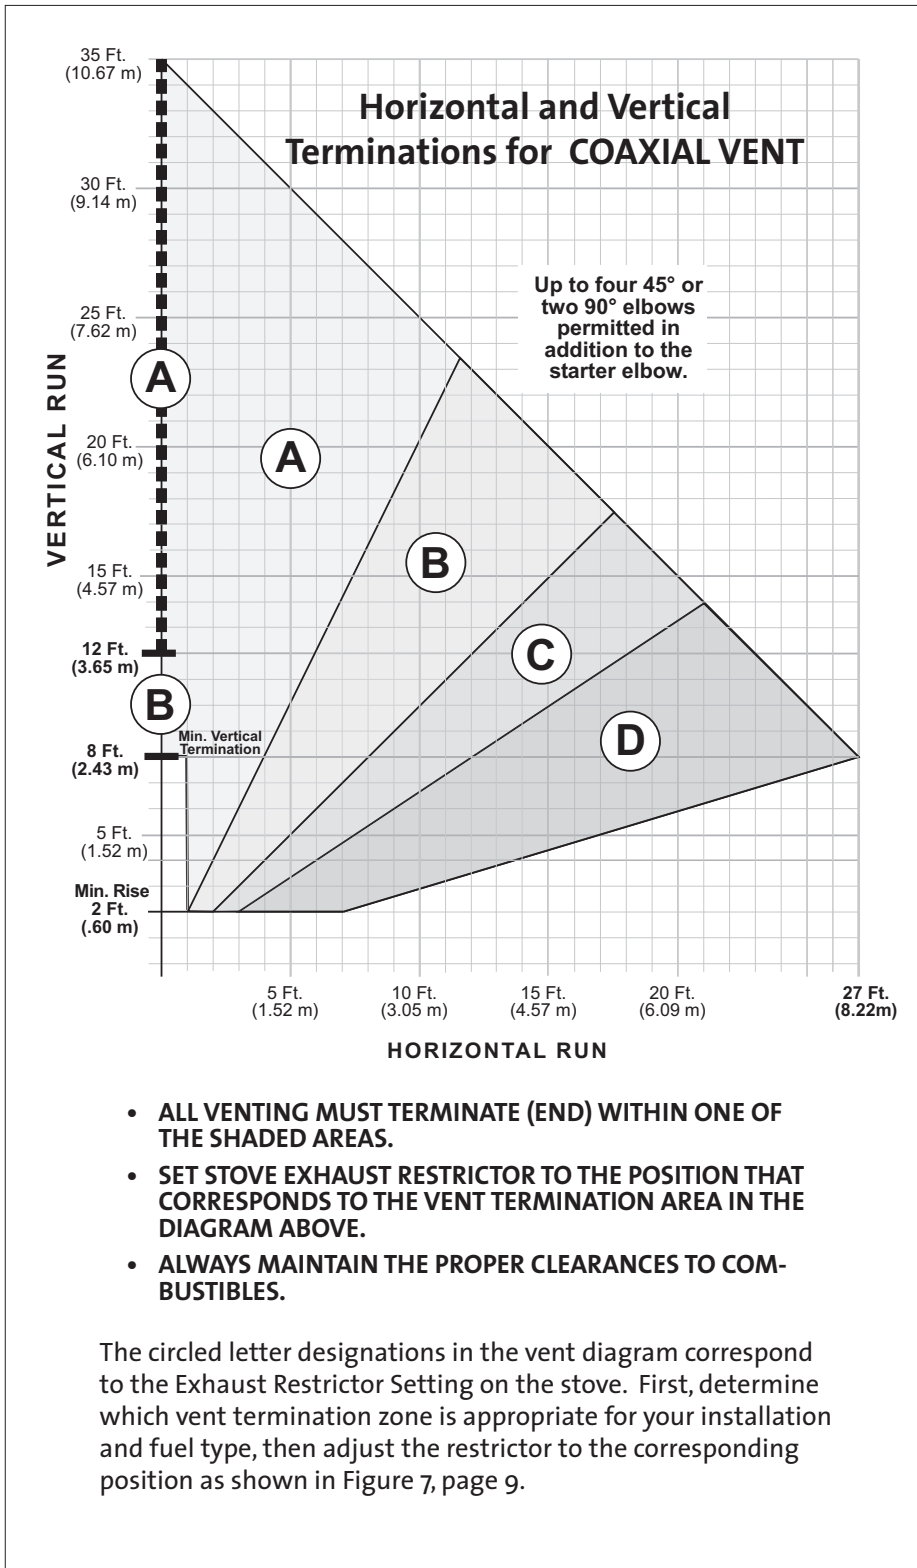

Figure 9. Coaxial Vent Termination Window / NG
- Any horizontal termination must fall within the shaded portion of the vent window graph illustrated in figs. 9 or 11. For Snorkel Terminations, see below.